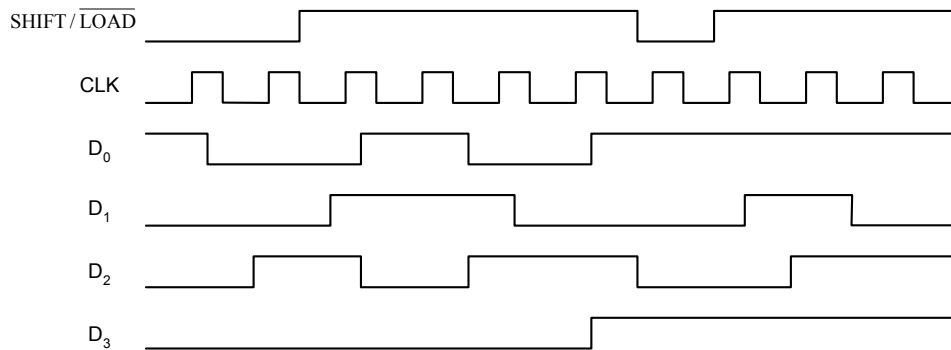

Figure 1
- Determine the state of each flip-flop waveform of Figure 1 (a) after each clock pulse. Data and the clock and SHIFT/ $\overline{\text{LOAD}}$ waveform are given in Figure 1 (b). Assume that the flip-flops are initially RESET.